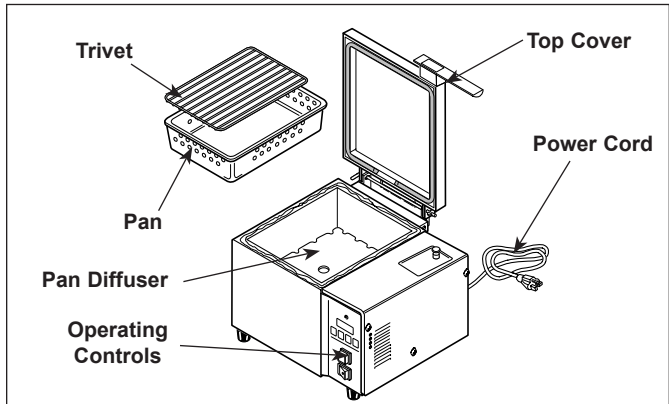

Figure 1. Components
4. Remove and wash all removable parts (Pan, Trivet and Diffuser - Figure 1) in soap and water. Rinse with clean water and allow to air dry.